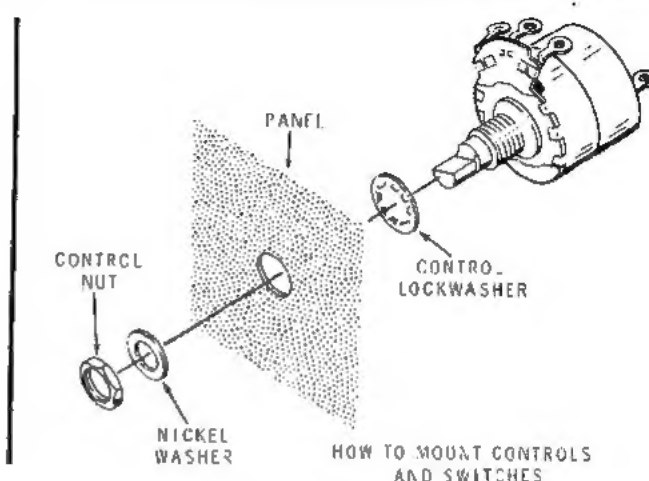

Figure 7
- () In position E, mount the 10 K Ω control (generator level control) with the switch on the rear. Use lockwasher and nut as shown in the diagram. Do not tighten this nut as it will be used later for attaching the chassis to the panel. See Figure 7.